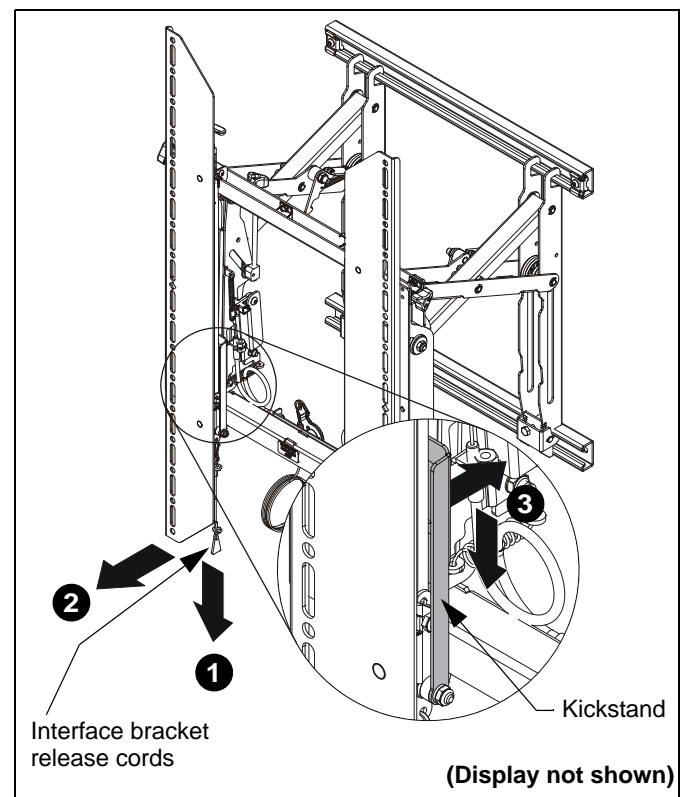

Figure 21
1. Pull down on interface bracket release cords. (See Figure 21)